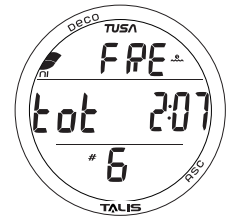

Fig. 86 - FREE SURF MAIN
**FREE Surface Main**, information includes (Fig. 86):